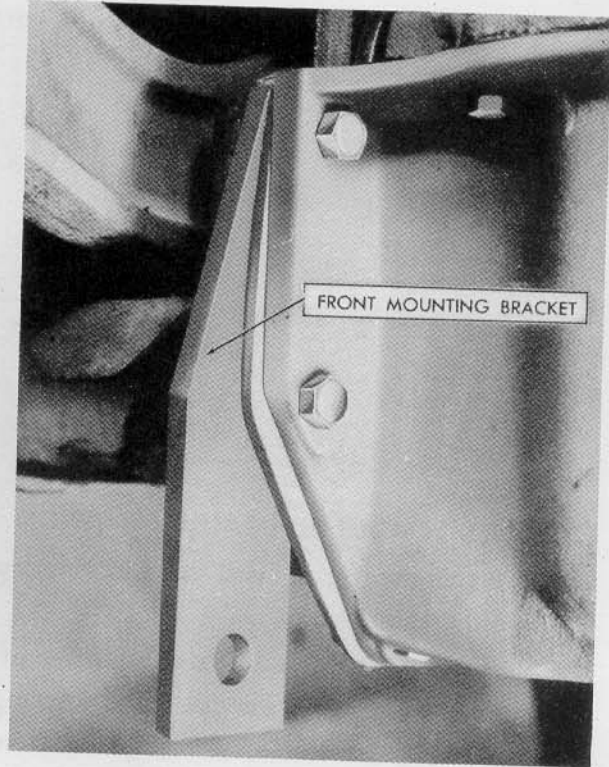

Figure 9
- a. Remove the upper four bolts, two on each side, from the tractor front axle support. See Figure 9.
- b. Position the brackets as shown in Figure 9 and 12. Secure with $\frac{7}{16}$ " x $1\frac{3}{4}$ " bolts and lock washers provided in the carton of small parts, and nuts removed from the tractor. Tighten nuts securely.